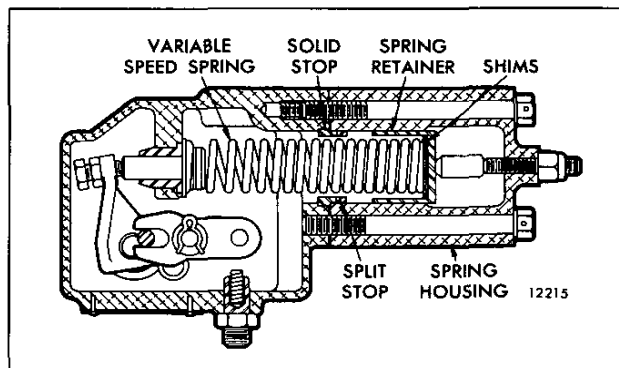

Fig. 5 – Location of Shims and Stops
3. Refer to Table 1 and determine the stops or shims required for the desired full-load speed (Fig. 5). Do not use more than four thick and one thin shim. A *split stop can only be used with a solid stop*.